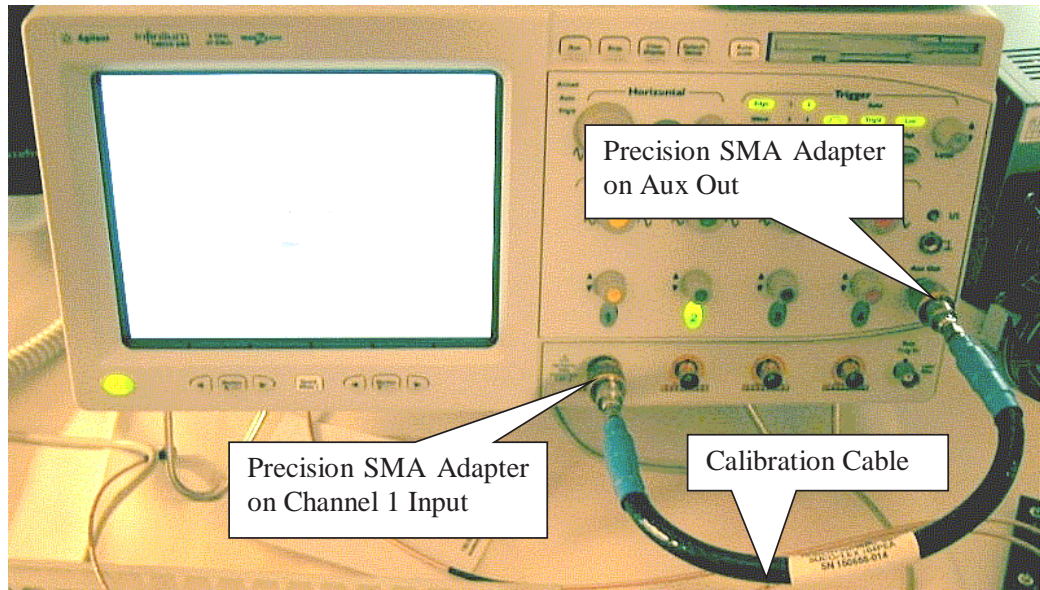

Figure 286 Calibration Cable Connection Example.
- c Then you will be prompted to connect the calibration cable with SMA adapters between the Aux Out and a specified input, as shown in the example in Figure 286 below. Install the SMA adapter by pressing it on input BNC, and hand tightening the outer ring turning right. Click the OK button after connecting the cable as prompted.